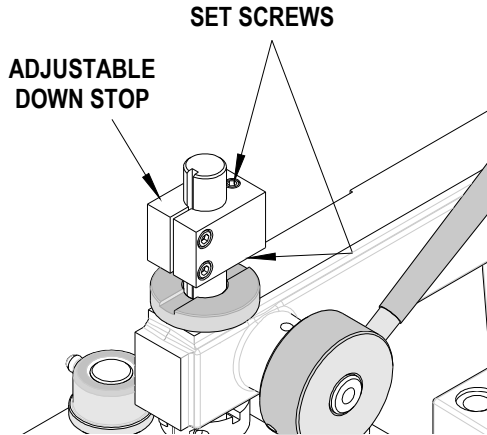

Figure 2-2
The termination depth can be changed by adjusting the set screws on the Adjustable Down Stop. Turning them clockwise (CW) reduces termination depth, while turning them counter-clockwise (CCW) increases the termination depth. See Figure 2-2. Die blocks should be used to set tool closure height at $4.61 \pm 0.12\text{mm}$ (.182±.005)